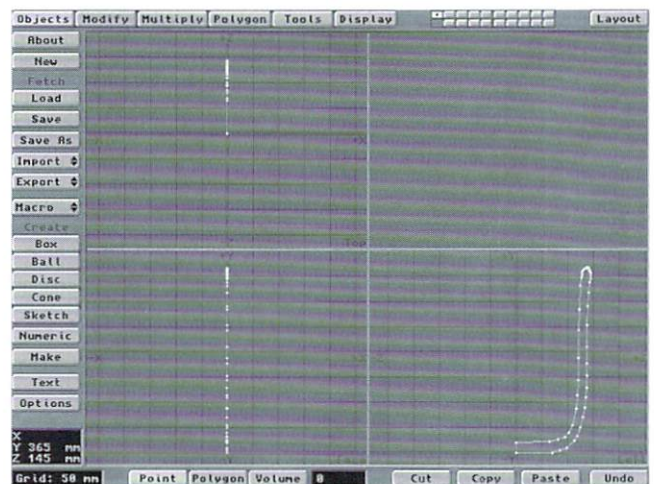

Figure 1: The initial polygon shape for the water container object.
- Start by creating a polygon that looks like the one in Figure 1. Copy the polygon to a new layer and **Lathe** it 360 degrees around the Y axis (center at 0, 0, 0) with 32 sides. Then, use the **Magnet** tool (**Modify** panel) to pull out the lip of the container to form a pour spout that points toward the +Z axis.